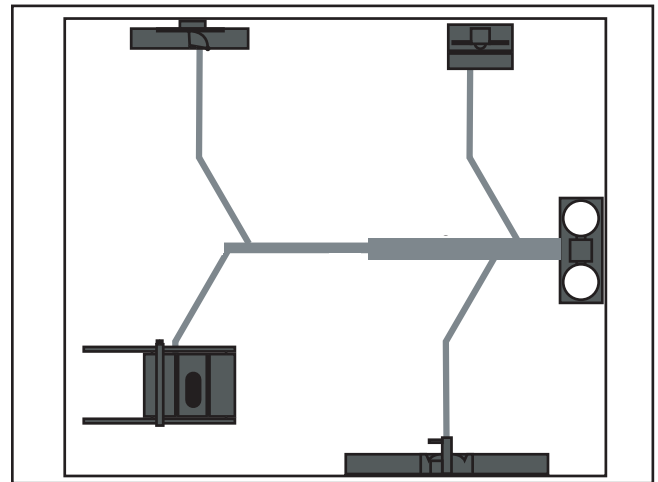

Figure 16. Good duct layout.
2. Ideally, you should design the duct system to have the shortest possible main line and secondary branch ducts. See **Figures 16 & 17** for ideas of good duct layouts vs bad duct layouts.